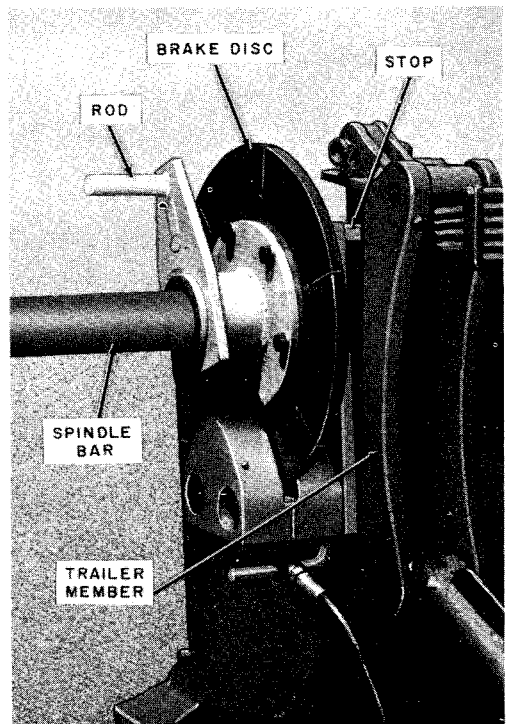

Fig. 1—AT-8413 L1A Cable Reel Brake
brake and a mounting assembly that is equipped with a movable spacer, which permits the brake to be used on either the TRUCO or McCABE-POWERS cable reel trailers. Fittings, which are part of the L2A hydraulic system, are provided on both sides of the trailer so the brake may be placed on either side of the cable reel. The brake is compatible with all steel reels and may be operated from the trailer or from the cab of the towing vehicle. The AT-8413 L1A Cable Reel Brake is illustrated in Fig. 1.
4.02 After the trailer has been positioned at the job site, slide the cable reel brake to the side of the trailer to engage the stop on the brake with the trailer member. (See Fig. 1.) Remove the dust plugs and couple the flexible hose to the brake and the trailer hydraulic system. Slide the cable reel against the brake. The rod on the brake must protrude toward the center of the reel beyond the cable reel spoke so that when the reel turns on the spindle, the rod will contact the leading edge of the reel spoke. Secure the reel on the spindle so the reel cannot creep away from the brake.